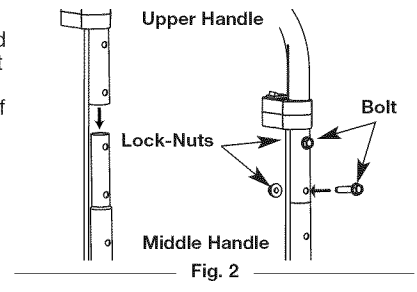

Fig. 2
6. Place the upper shaft of the control handle onto the 3-holed end of the straight middle shaft and align the control handle's holes with the two end-holes of the straight metal shaft (Fig. 2).
7. Insert two flange-head bolts (1/4" x 1-1/4") into these holes (Fig. 2).